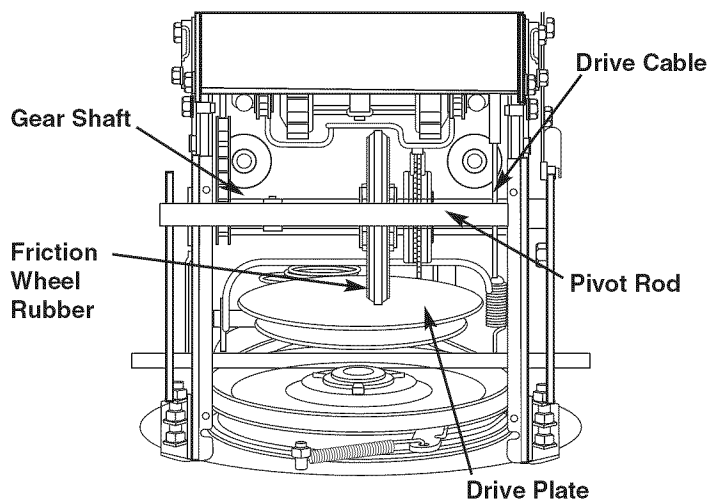

Figure 13
1. Loosen the jam nut on the drive cable. Adjust the cable as necessary. (see Fig. 13)
Drive and Shifting Mechanism: Lubricate at least once a season or after 25 hours of operation. Remove the rear cover and lubricate any chains, sprockets, gears, bearings, shafts, and shifting mechanism at least once a season. Use engine oil or a spray lubricant. **Avoid getting oil on the friction wheel rubber and aluminum drive plate.** (see Fig. 13)